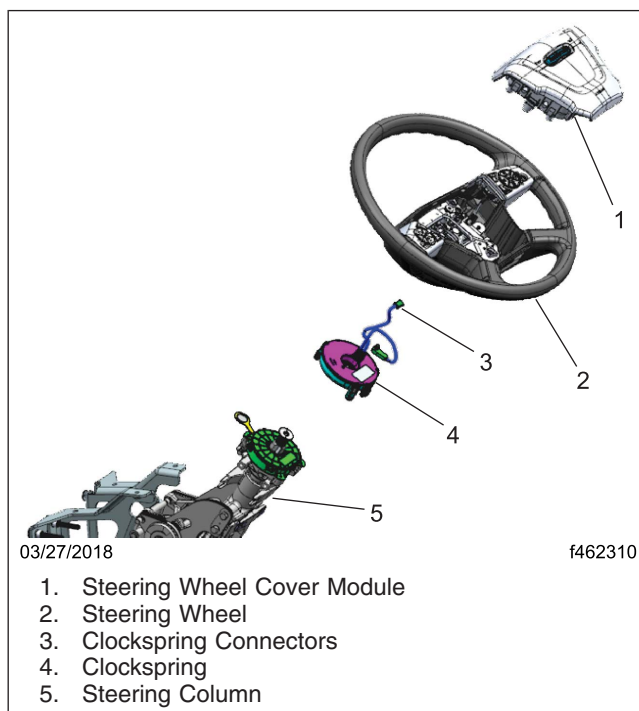

Fig. 3, Steering Wheel Cover Module, Steering column and Clockspring.
15.3 Disconnect the clockspring connector from the right hand (RH) switch pod. See Fig. 3